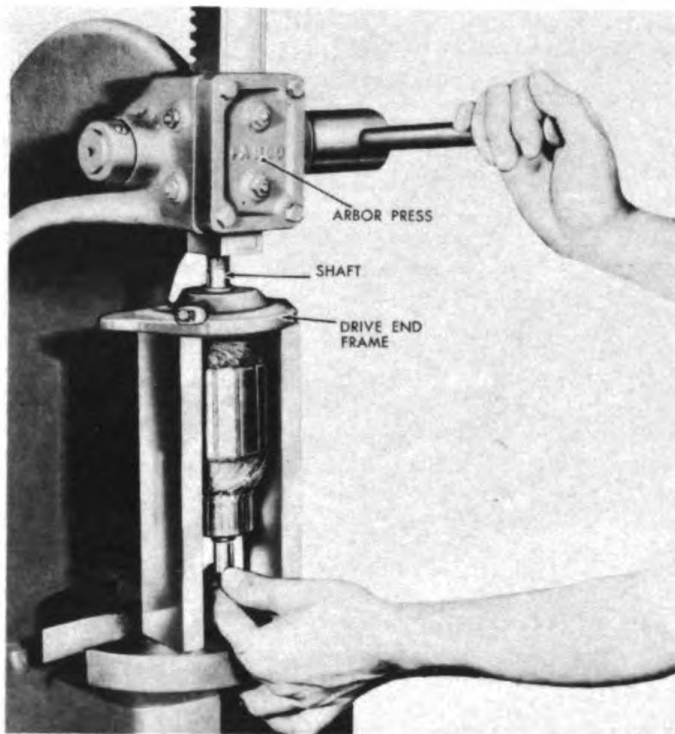

Figure 257. Pressing off Armature Shaft from Drive End Frame.
- f. To remove the drive end frame from the armature, it may have to be pressed off in an arbor press. Normally, it will slip off very easily. See figure 257. Remove the collar or spacer from the pulley side of the frame.